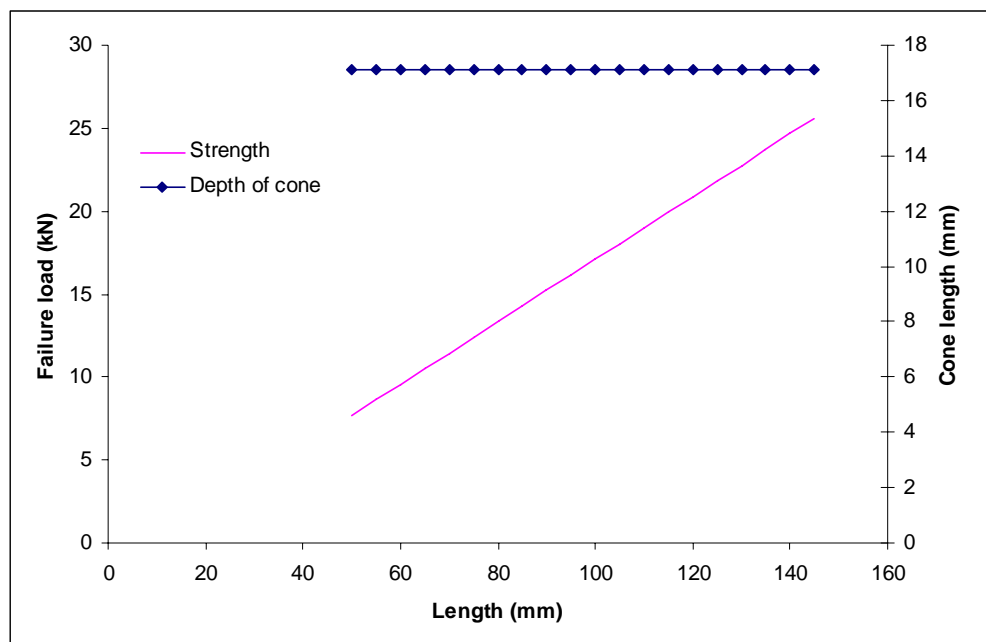

Figure 3.7 Effect of anchor length. 10 mm shaft in 12mm hole, rock-gluce bond = 5 N/mm², compressive strength = 30 MPa.
Using the simple cone model (equation 1) not only over-estimates the strength of the anchor, but also implies that doubling the length of the anchor will increase the strength by a factor of 4. In fact, the depth of the failure cone relates to the rock strength and is constant, and any extra anchor length increases the load linearly through the rock-gluce bond (figure 3.7). Doubling the anchor length from 60 mm to 120 mm increases the anchor strength from 9.56 to 20.87 kN, a factor of 2.18 (and not a factor of 4).
- OR use a drill to slowly spin the bolt and angle grind notches onto the rod (see figure 3.7), this is a bit slower but more surface area gets notched.